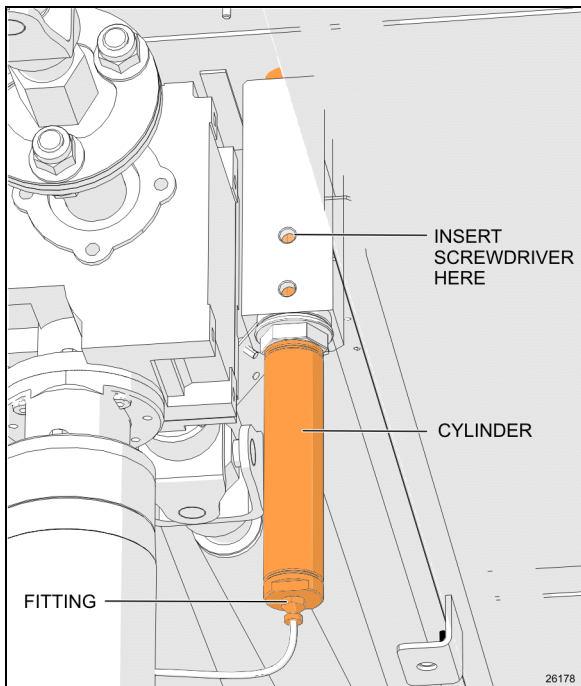

FIGURE 34: SECURITY PIN AIR CYLINDER REMOVAL
The system consists of a stainless steel pin connected to a single action/spring return pneumatic cylinder (Figure 34). The pin engages in the slide-out receptacle with releasing of the parking brake. A knocking sound may be heard at this moment. An O-ring is located at the base of the pin housing to reduce knocking when the pin retracts. The lower hole on the pin housing permits water to drain. The upper hole allows inserting a small screwdriver to prevent pin rotation on air cylinder removal.
2. Disconnect the fitting from the cylinder base. (Figure 34).